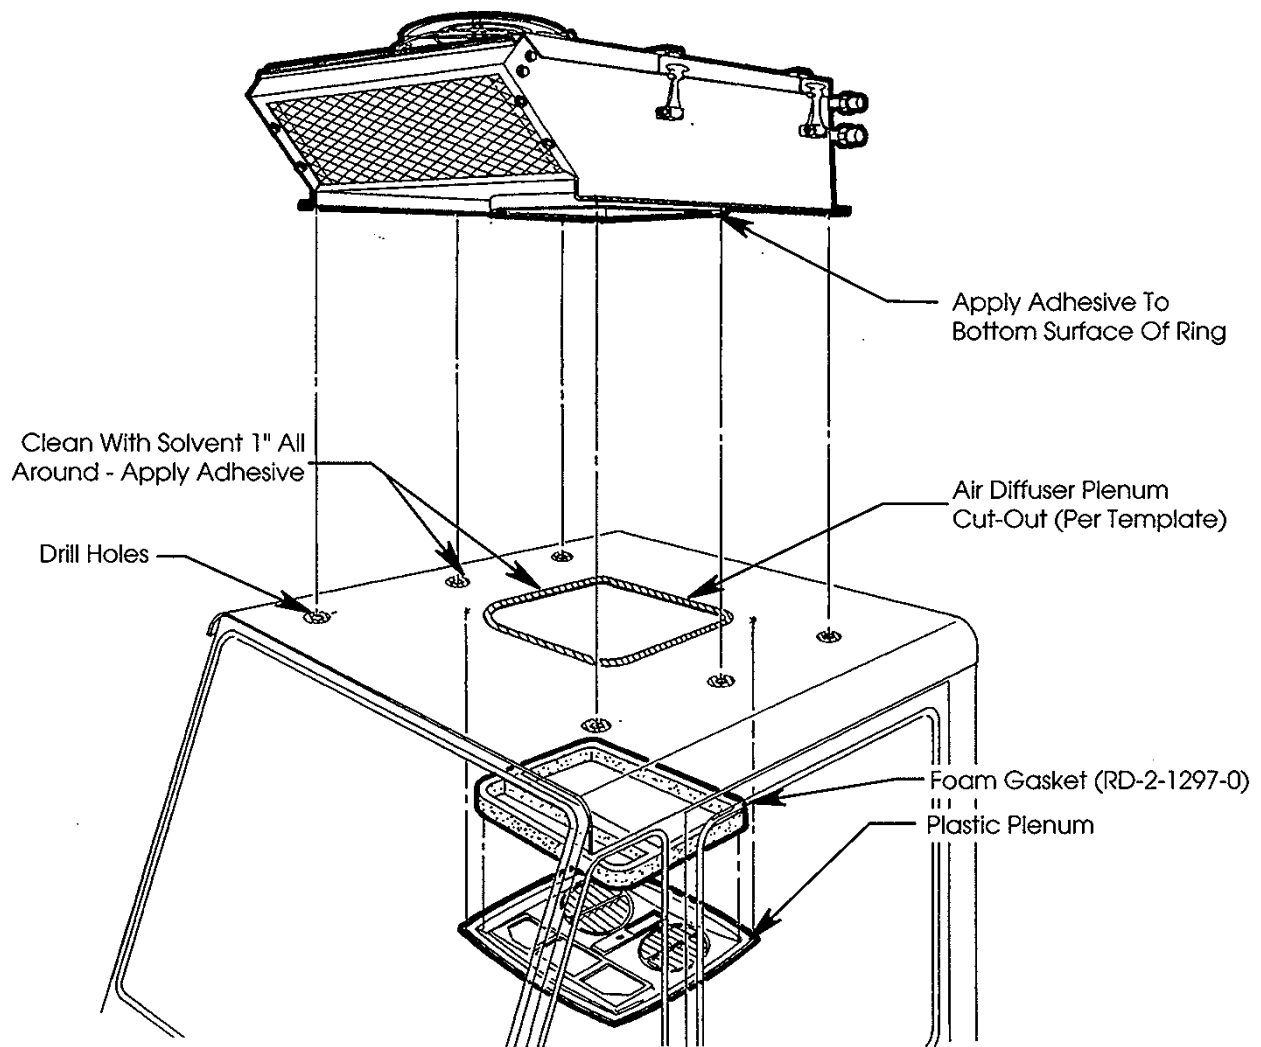

Figure 1
2. Determine the most suitable location for mounting the air conditioning unit. (See Figure 1)
8. Apply a thin film of adhesive 1" wide around upper surface of roof cut-out and mounting holes. Apply sealer to the face of the sealing ring on the unit. See Figure 1.